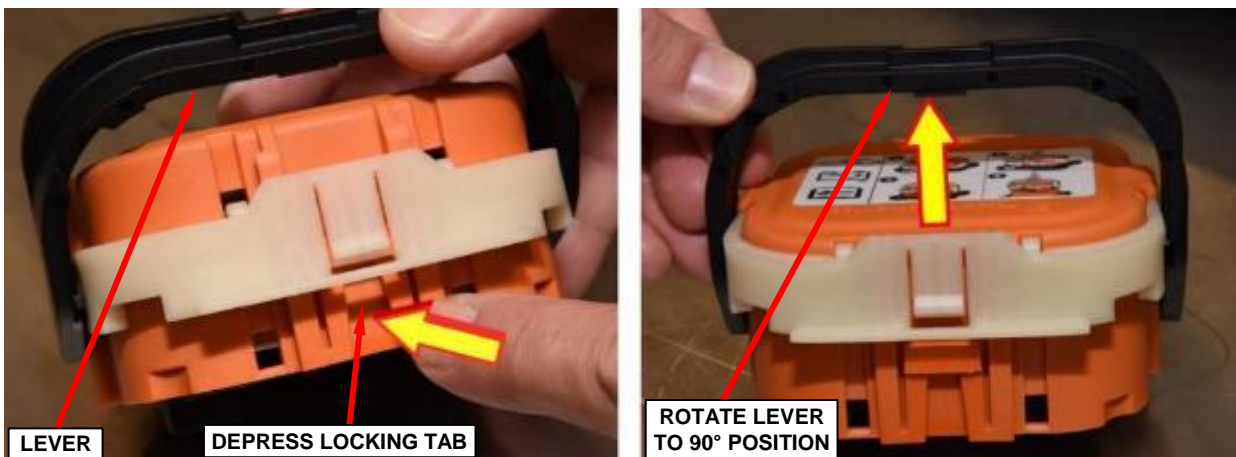

Figure 11 – High-Voltage Manual Service Disconnect Second Stage Latch Release (High-Voltage Manual Service Disconnect Removed from Vehicle for Visual Clarity)
- 18. Depress the locking tab and continue to rotate the lever to the end of travel, 90° position (Figure 11).